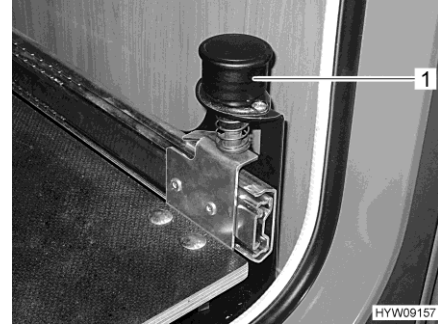

Fig. 90 Knob with locking device
- Pull the knob (Fig. 90,1) upwards. The gas bottle compartment pull-out is unlocked.